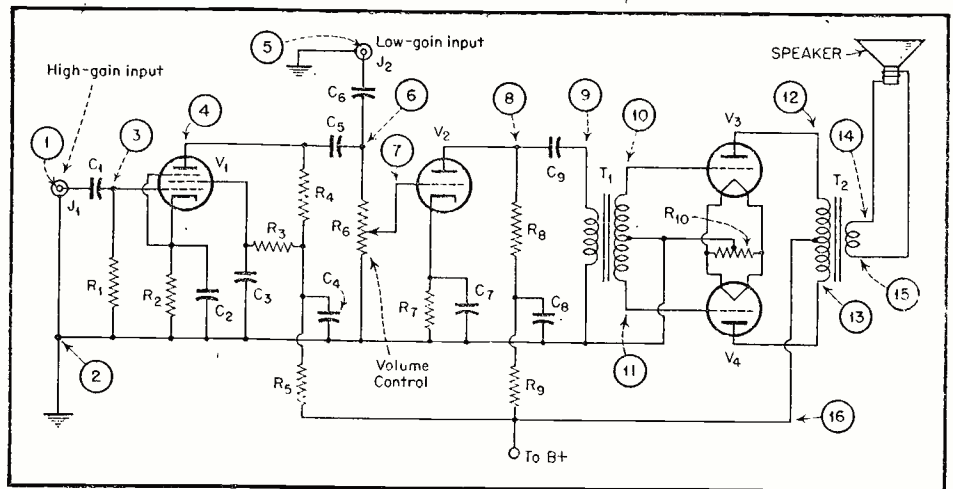

Fig. 2.—Amplifier circuit, with test points for signal injection.
**STEP A.** (1) Plug-in amplifier to be tested and allow about 5 minutes for tube heaters to come up to normal operating temperature. (2) Connect rectifier-type multi-range a-c voltmeter (1000 ohms per volt, or better) to voice coil terminals 14 and 15 (See Fig. 2). (3) Connect oscillator output clip to terminal 15, and inject signal at point 15. Advance oscillator output to maximum. No sound in speaker, although voltmeter deflects, indicates dead speaker. No sound in speaker, together with no voltmeter deflection, indicates shorted  $T_2$  secondary.